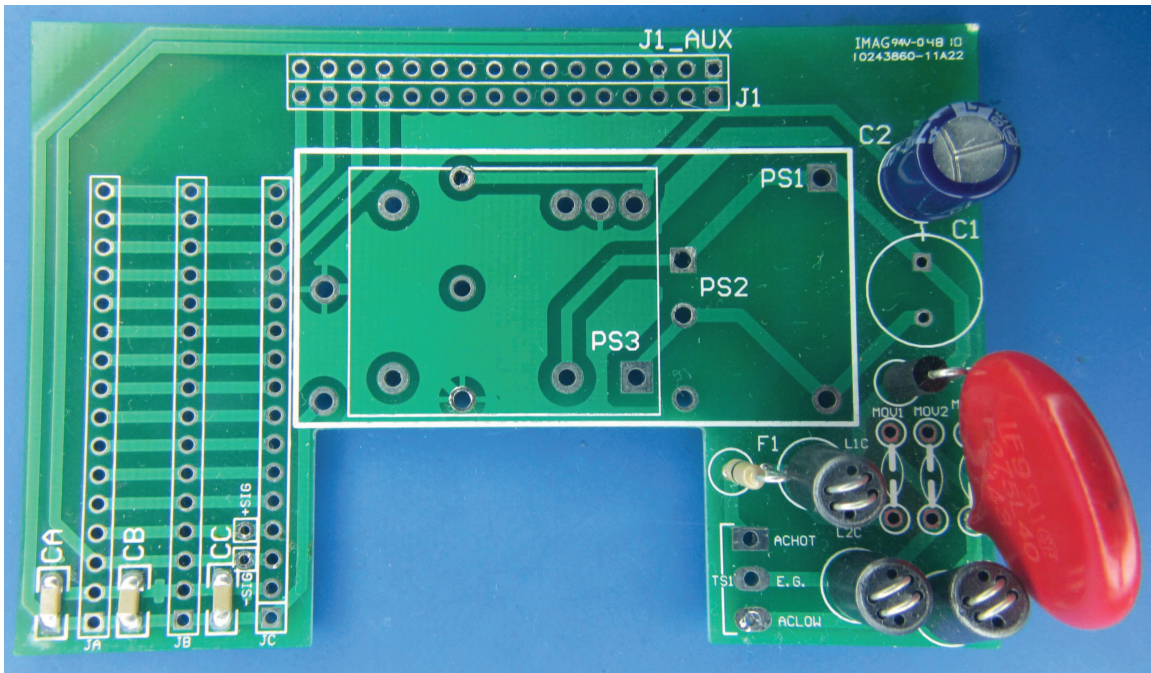

Figure 1: 80-SPM-16
- 3.2 Verify all the following boards have been received from production and appear as shown in **Figures 1 to 3** below with the appropriate revision and board title: